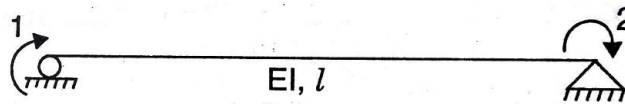

Figure 2.2
- b) For the simply supported beam shown in Figure 2.2. Develop the flexibility matrix